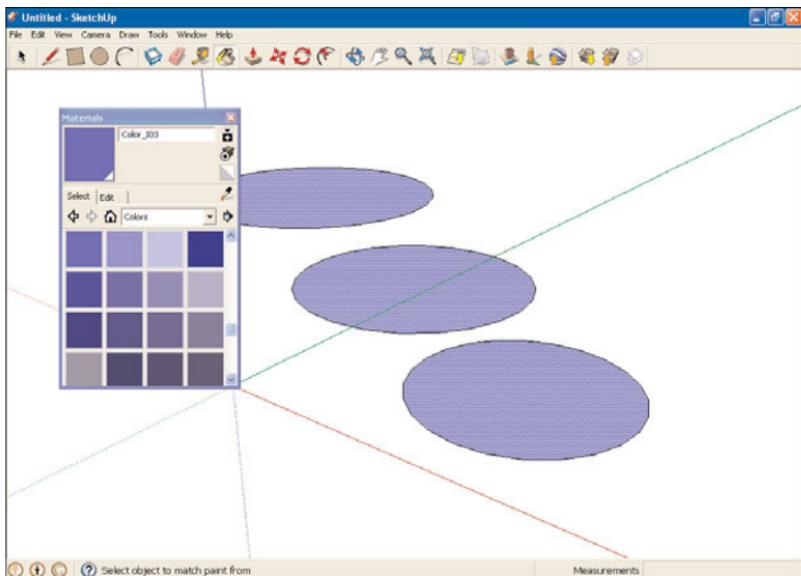

FIGURE 7.9 Coloring three circles at once.
9. Click a horizontal circle. When you do, all three circles are painted at the same time, as you see in Figure 7.9.